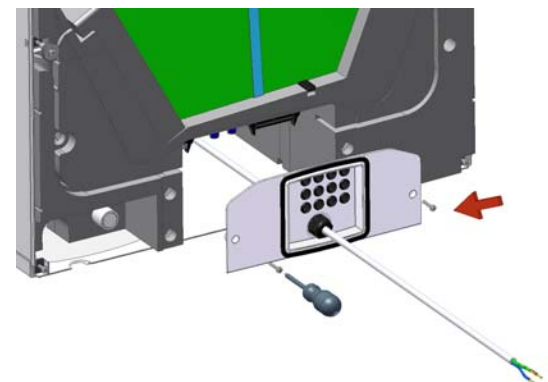

Figure 10: Removing the Cable Inlet Plate (Rear of Unit)
7. Remove the 2 screws and detach the rear Cable Inlet Plate (see *Figure 10*).